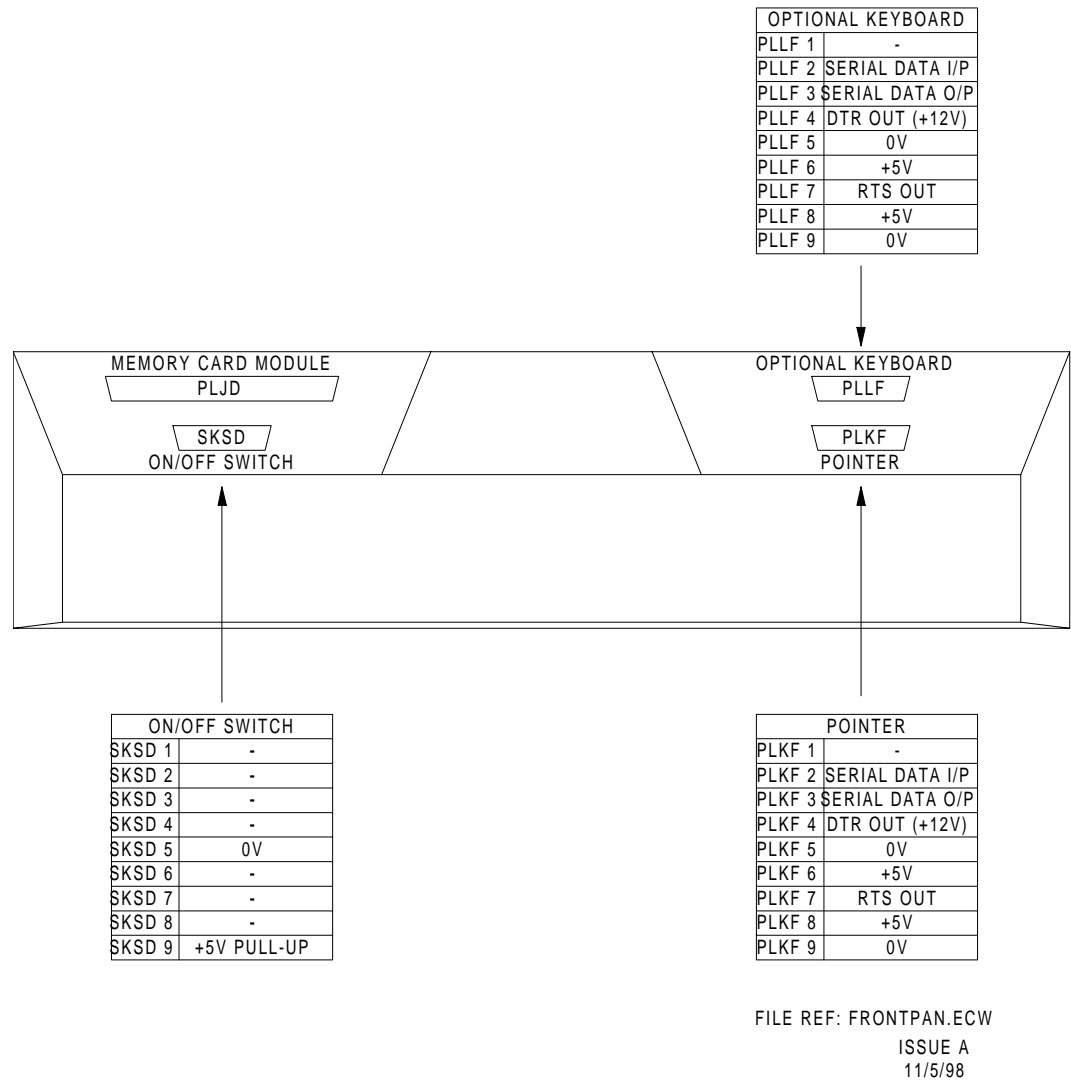

Figure 3.11 - Inter-unit Cabling: Non-Integral PEU Front Panel Connections
- Figure 3.11 Inter-unit Cabling: Non-Integral PEU Front Panel Connections